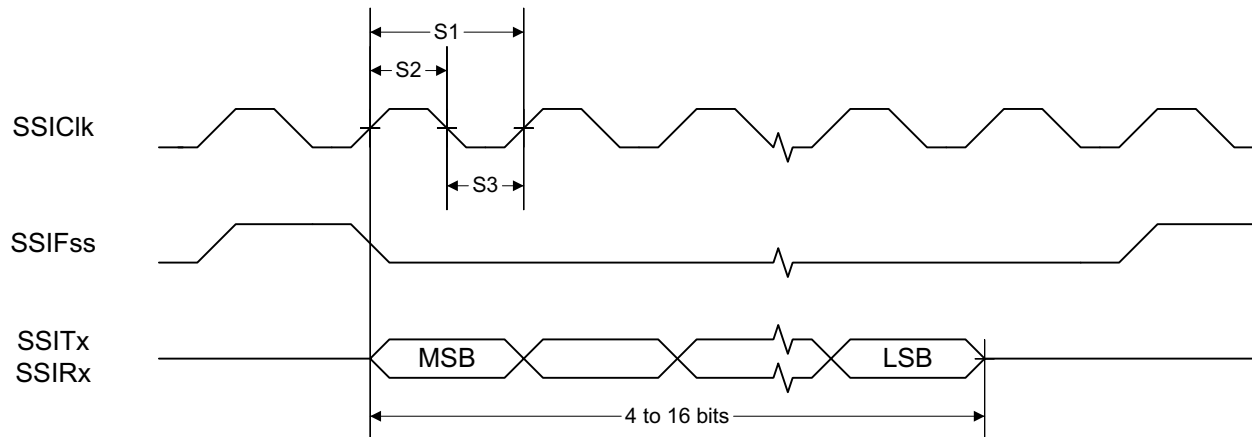
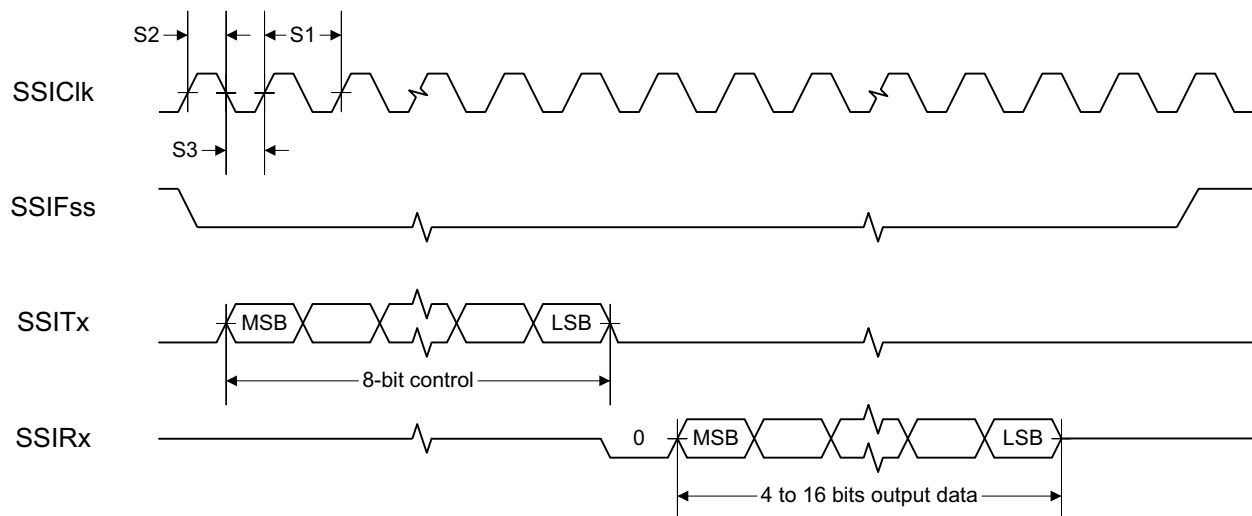
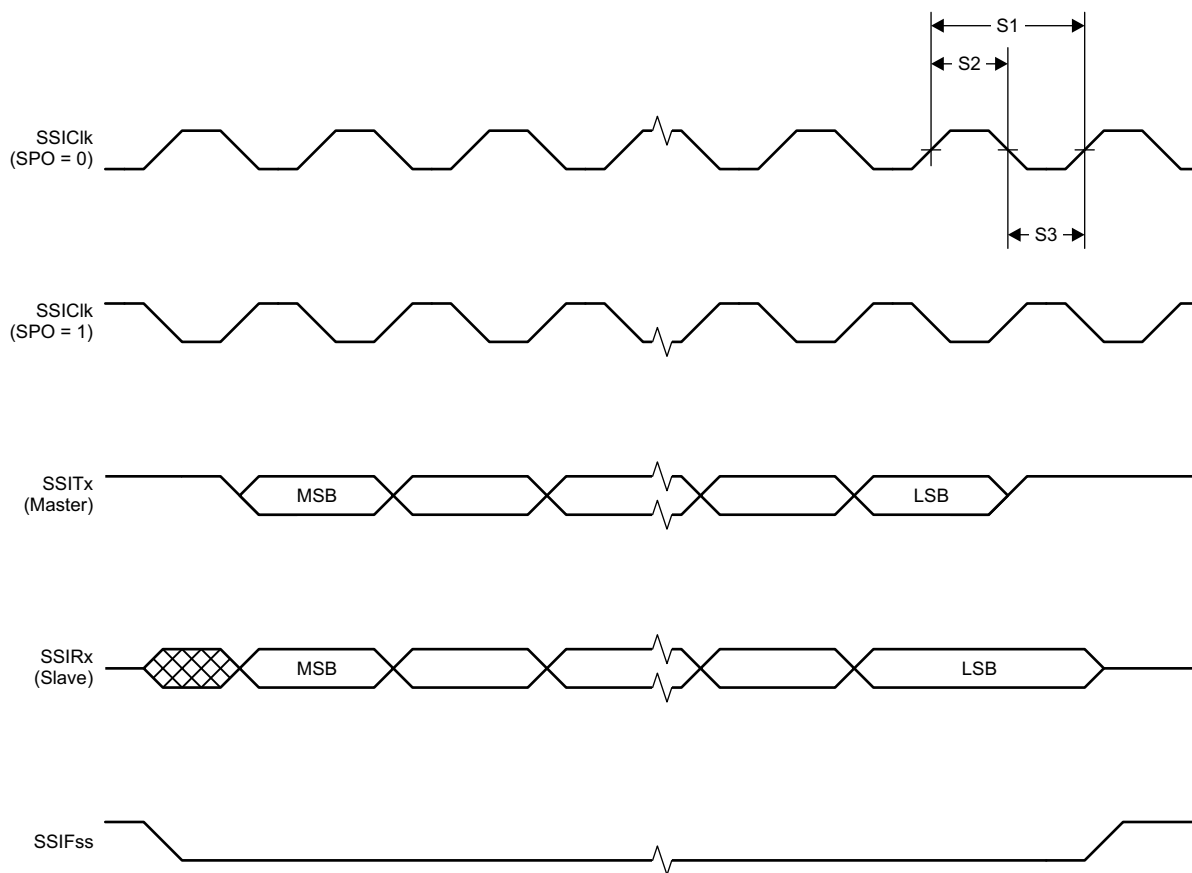

Figure 8-1. SSI Timing for TI Frame Format (FRF = 01), Single Transfer Timing Measurement
Figure 8-2. SSI Timing for MICROWIRE Frame Format (FRF = 10), Single Transfer
Figure 8-3. SSI Timing for SPI Frame Format (FRF = 00), With SPH = 1
- (1) Refer to SSI timing diagrams Figure 8-1, Figure 8-2, and Figure 8-3.
- (2) When using the TI-provided Power driver, the SSI system clock is always 48 MHz.